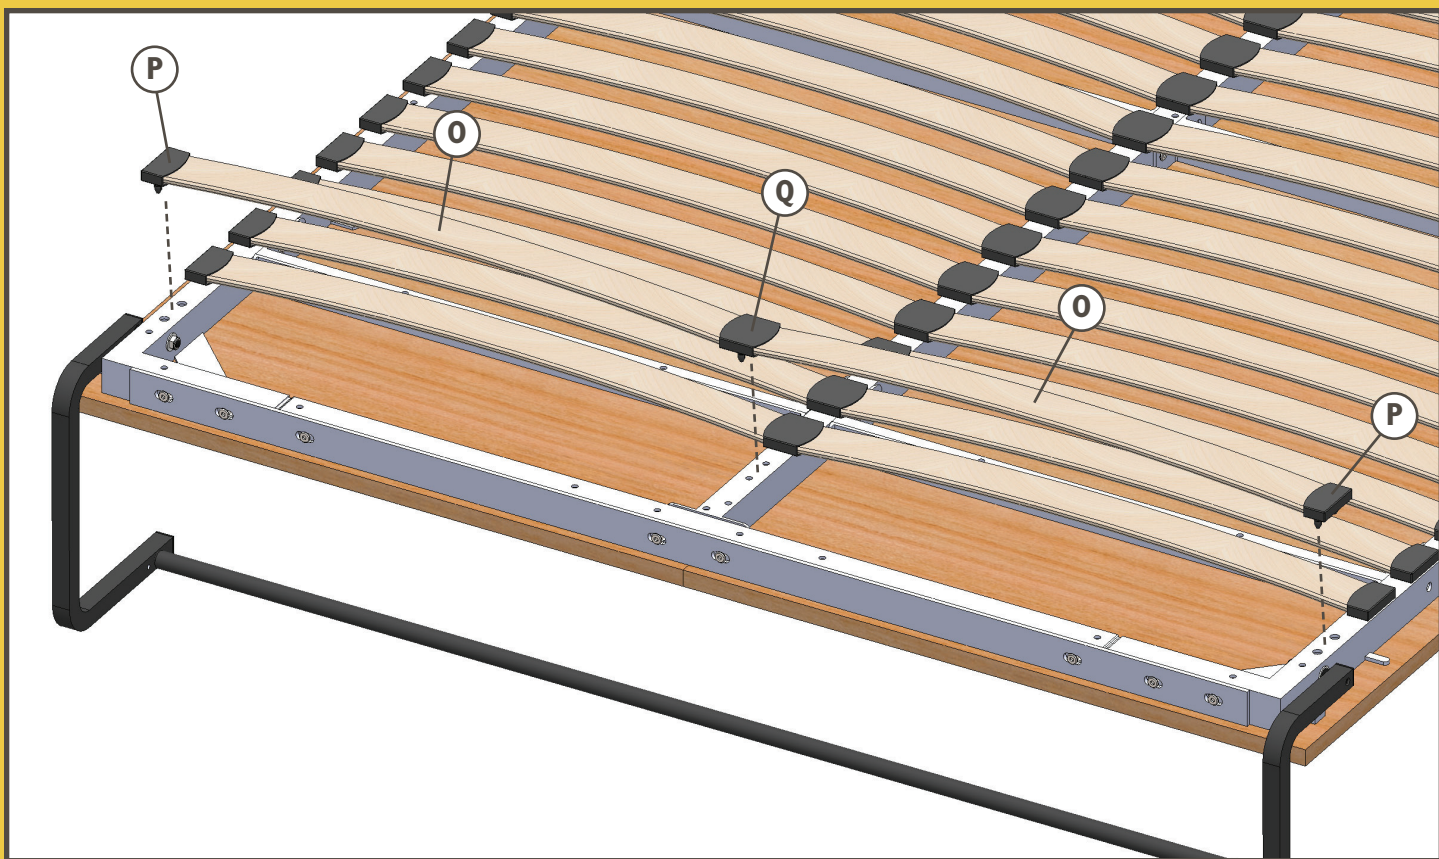

Fig. 19
1. Install the remaining Slats (O), Slat Caps (P) and Double Slat Caps (Q). These will go in Rows 8 and 20 in Twin and Full beds and Rows 8, 11 and 20 in Queen beds. Use a rubber mallet to tap the Slat Caps and Double Slat Cap into place, if necessary. **Fig. 19.**